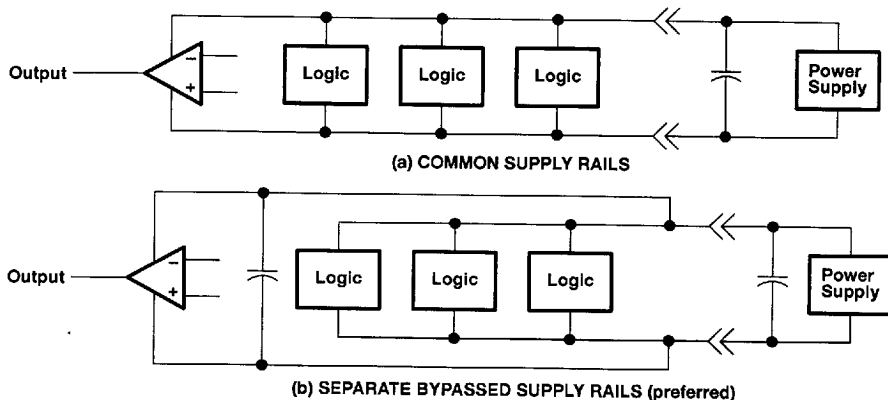

Figure 32. Common Versus Separate Supply Rails
1. Power the linear devices from separate bypassed supply lines (see Figure 32). Otherwise, the linear device supply rails can fluctuate due to voltage drops caused by high switching currents in the digital logic.